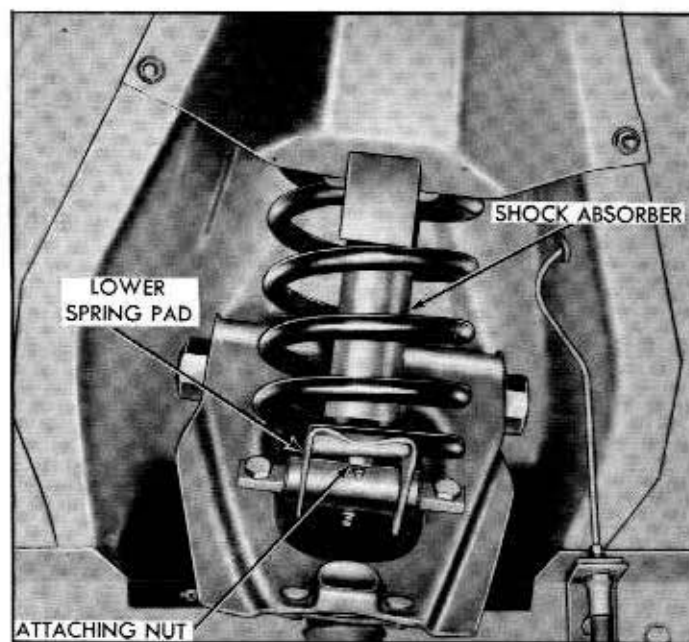

Fig. 3-8—Shock Absorber Lower Mounting—(61CM-405)
2. Disconnect the shock absorber lower retaining nuts from the spring lower retaining plate (pad). See figure 3-8.
2. Remove the shock absorber lower retaining nuts. See figure 3-8.